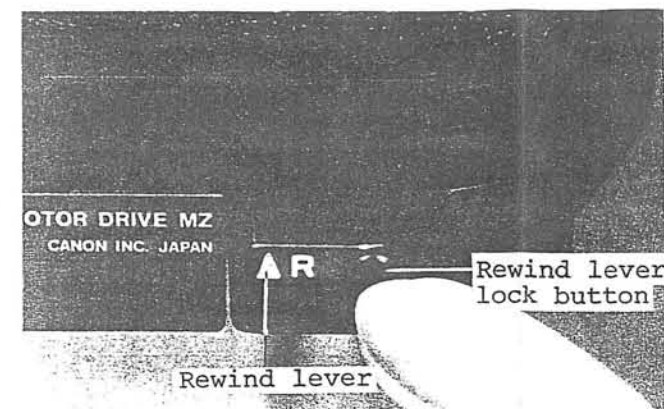

Fig. 55
1. Push the rewind lever (R) of the film camera up in the direction of the arrow while pressing rewind lever lock button on the motor drive. (Fig. 55)